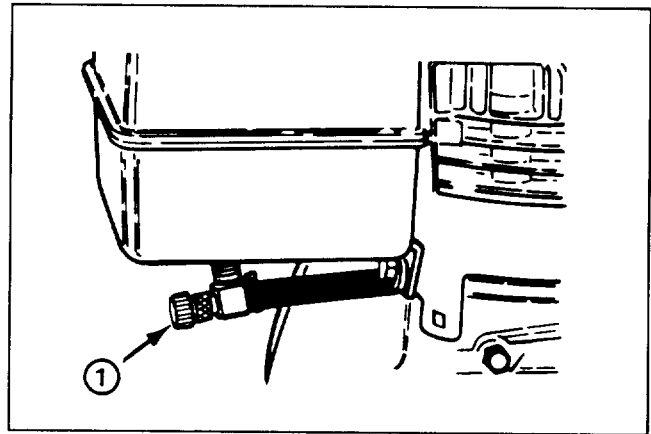

Figure 14
**Fuel Shut-Off Valve** (Fig. 14)—Valve is located under fuel tank. Close valve to stop fuel flow from fuel tank and open valve to allow fuel to flow to the carburetor. Close valve when snowthrower is not used.
3. Open fuel shut-off valve below fuel tank (Fig. 14).